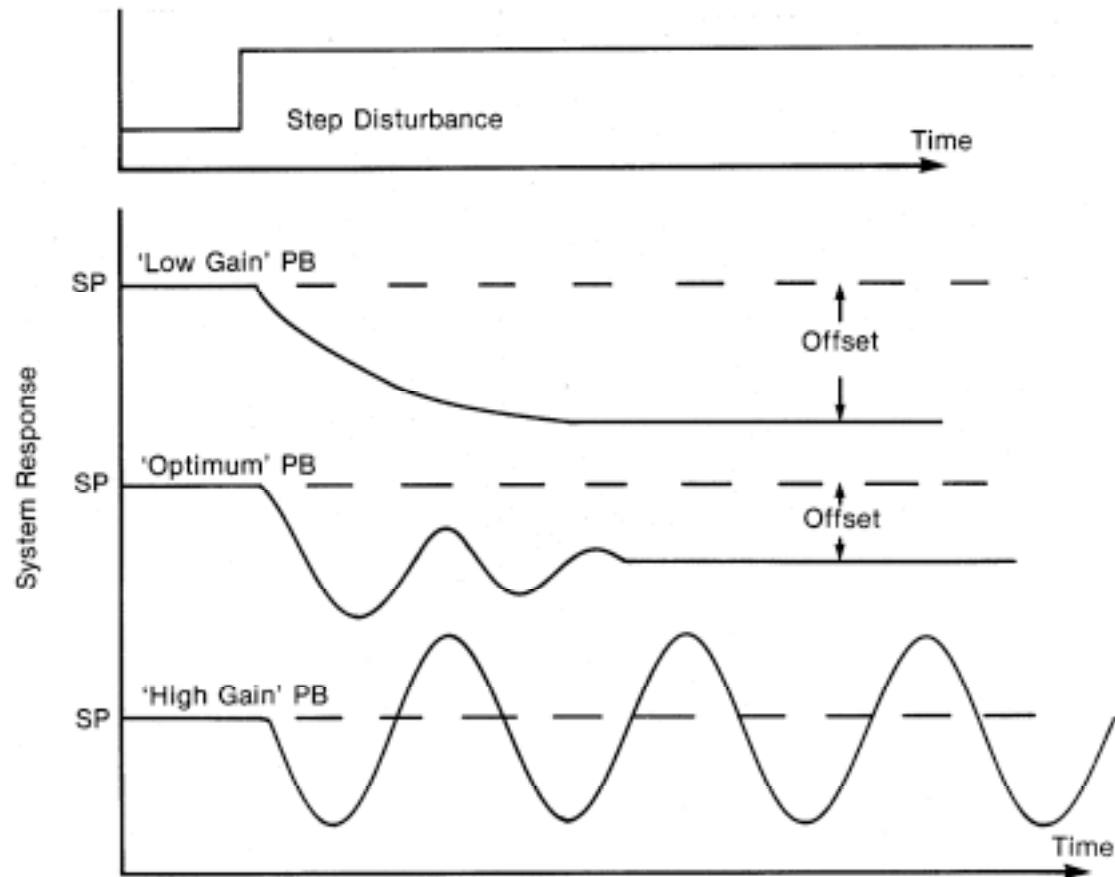

Figure 3: Responses to Varying Proportional Gains.
- If the gain is reduced the oscillations will eventually *attenuate*. This is shown in Figure 3.